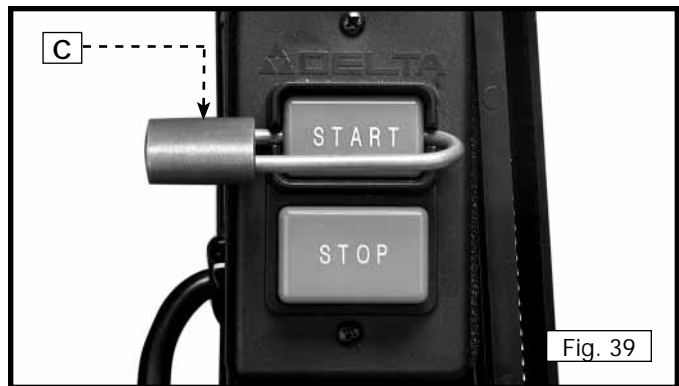

Fig. 39
**IMPORTANT:** When the tool is not in use, the switch should be locked in the "OFF" position to prevent unauthorized use, using a padlock (C) Fig. 39 with a 3/16" diameter shackle.